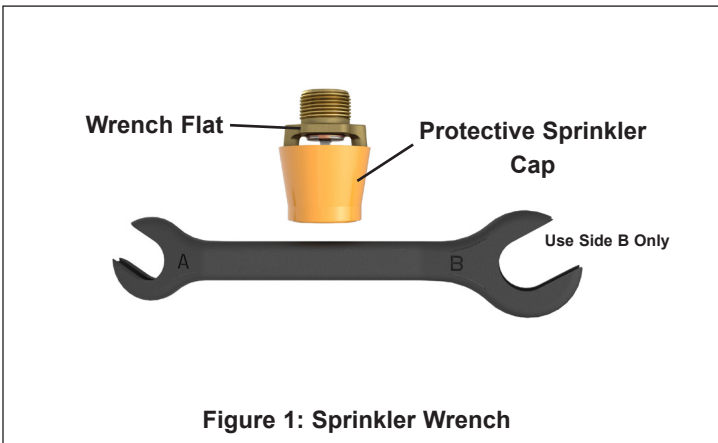

Figure 1: Sprinkler Wrench
- D. **Use ONLY sprinkler wrench 13635W/B (shown in Figure 1) for installing VK510. With the sprinkler contained in the protective cap, install the sprinkler onto the piping by applying the sprinkler wrench to the sprinkler wrench flats only, while taking care not to damage the sprinkler operating parts.**
Sprinkler Wrenches (see Figure 1):